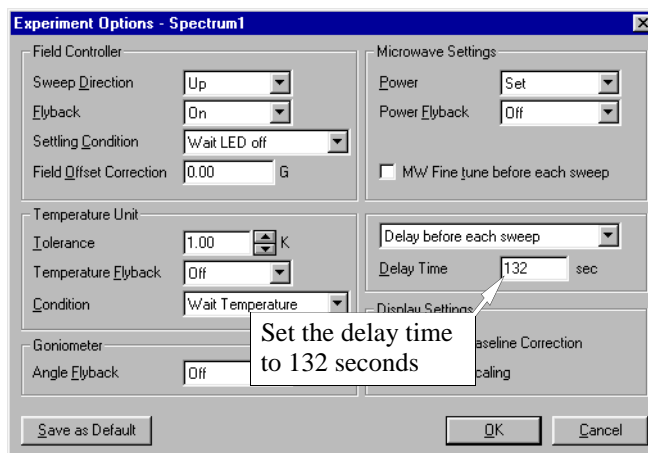

Figure 3-3 Using the Experimental Options window to program a delay between field sweeps.
- Program the spectrometer to delay after each field sweep.** You may want to program the spectrometer to acquire a field sweep at a set interval, for example every 5 minutes. To make this setting as well as other optional settings, open the Experimental Options Window. Set the delay option to delay after each sweep and enter the appropriate delay time in seconds. In this example experiment we performed the field sweeps every five minutes. Since our scan time was 168 seconds we will make up the remaining time (132 seconds) using the delay option. (See Figure 3-3.)